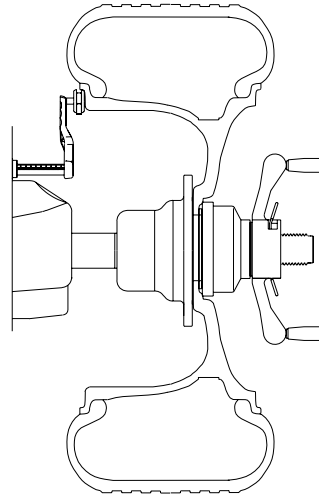

Figure 22
**4.5.1 Rim Distance and Diameter (offset)** - Move the rim offset arm to the edge of the rim, touch the pointer to the rim edge as illustrated in Figure 22 and hold steady for about a second. The beeper will sound when the distance and diameter values are calculated and entered. Return the arm to its fully in and down position on the balancer. Do not allow the measurement arm to "dangle" down in front of the balance.